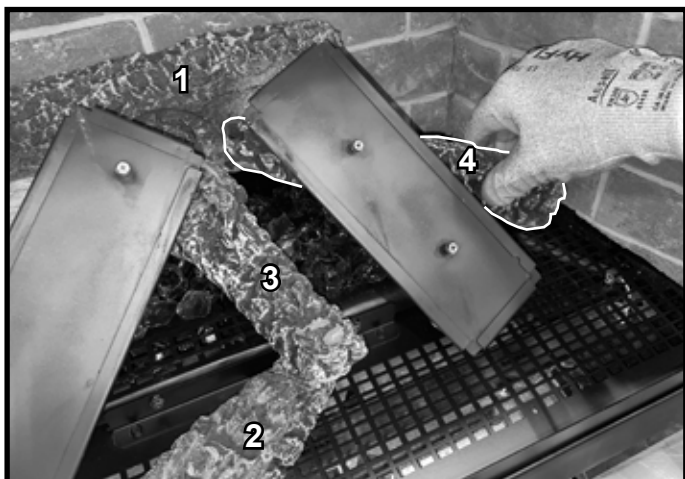
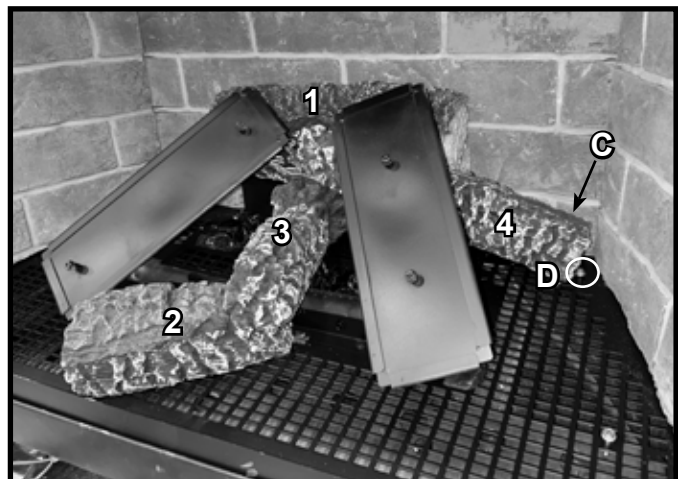

Figure 8 Position Log #4
Figure 9 Log #4 Installed
LOG #4: Position Log #4 from the right side as shown in Figure 8. Rest the pointed end on Log #3. Rotate the right side of the log counterclockwise until it contacts Log pin C and Log Pin D and Log #1. See Figure 9.
- Verify Glass Seal Plate is properly installed. See Figure 9.A.